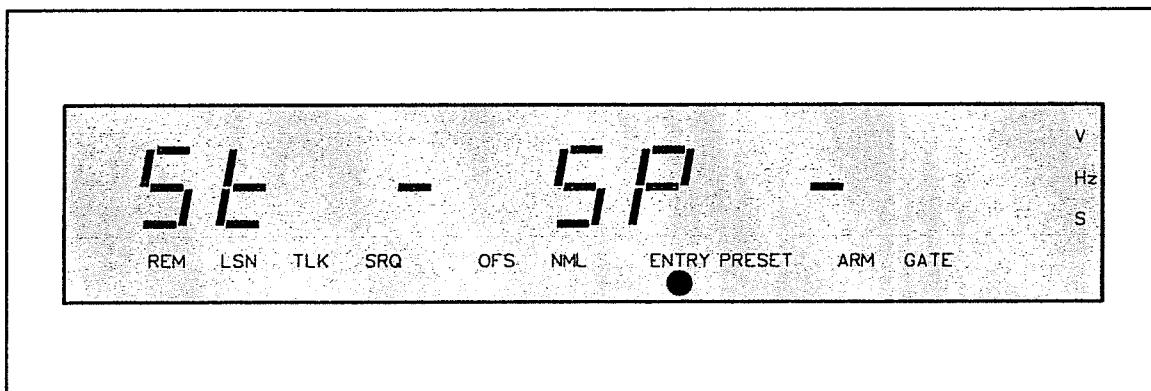
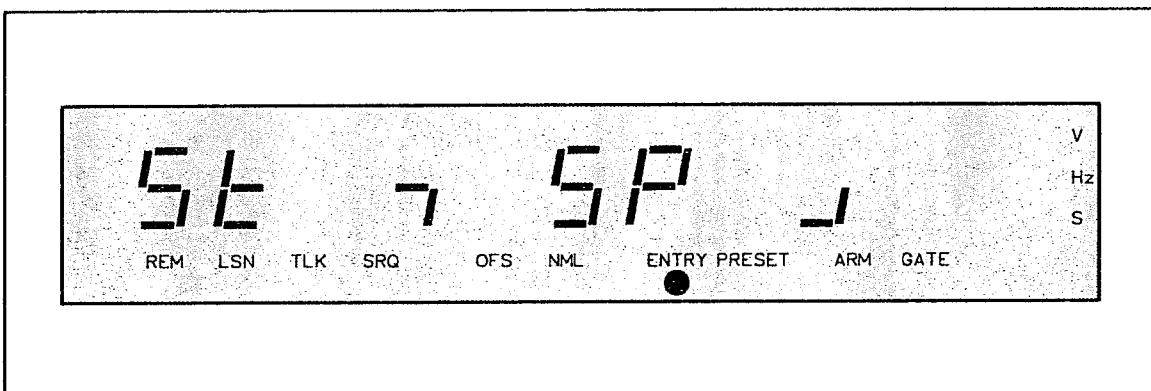

Figure 3-34. EXTERNAL ARM SELECT Entry Mode Display, Arming Off
Figure 3-35. EXTERNAL ARM SELECT Display, Arming States Selected
3-196. External arming can be used to specify the start and/or stop of a measurement, by a signal that is not directly involved in the measurement. When external arming is enabled, a signal must be connected to the ARM input connector to arm the gate to open and/or close. Pressing the EXT ARM SELECT key displays the arming status, shown in Figure 3-34, and allows the START ARM (open gate) and/or STOP ARM (close gate) states to be changed.
3-197. The arming status is represented as "St" (START ARM) and "SP" (STOP ARM). The states are defined by "—" (arming off), shown in Figure 3-34; and " \searrow " (arming set on negative slope), and " \nearrow " (arming set on positive slope) as shown Figure 3-35 slope). The channel A SLOPE key controls the START ARM, and the channel B SLOPE key controls the STOP ARM.
2. The counter displays, “St” for start arm, “SP” for stop arm, and the current start/stop arm states (see *Figure 3-35*).
3. The ENTRY light flashes, indicating the arming states may be changed (see *Figure 3-35*).
Figure 3-35 shows the EXT ARM SELECT entry mode display, with the START ARM set negative, and the STOP ARM set positive.